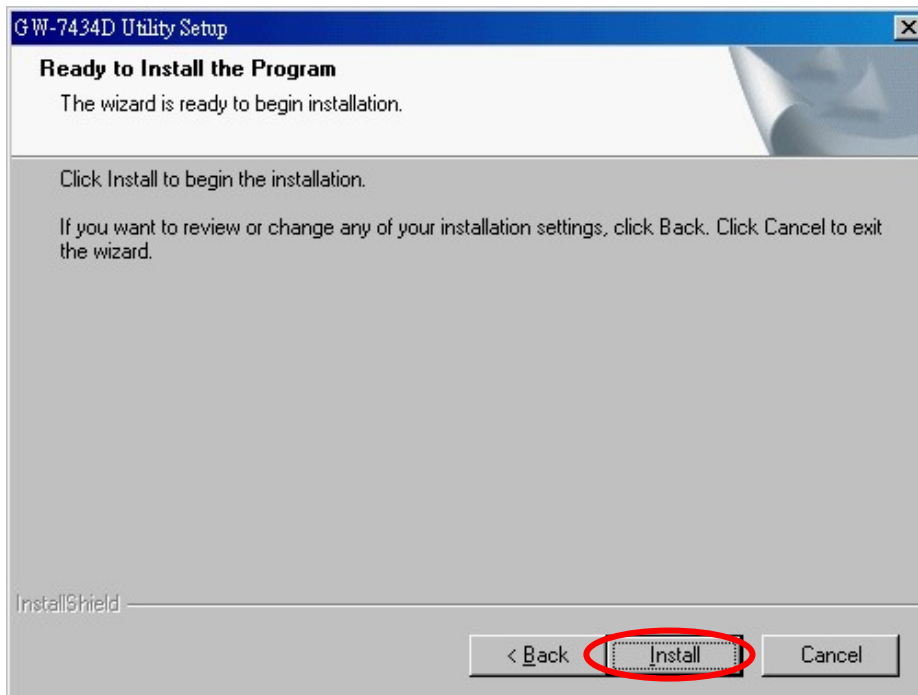

Figure 5-4: “Ready to Install the Program” dialog
**Step 5:** Click “Next” button and a “Ready to Install the Program” window will pop up to prompt user that the wizard is ready to begin the installation See figure 5-4.